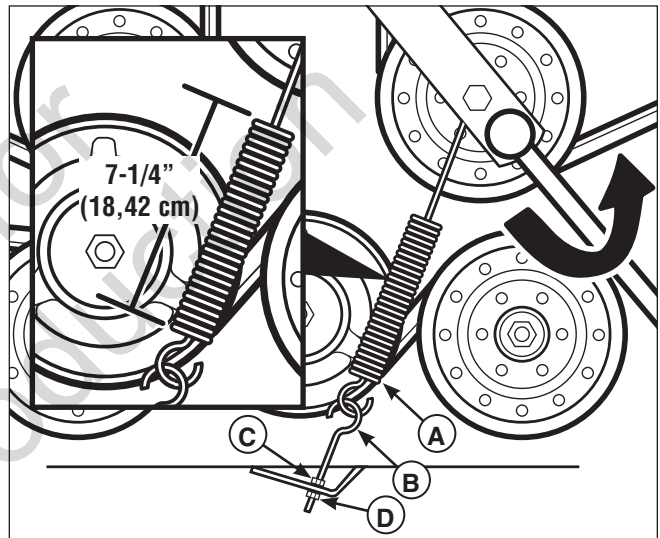

Figure 45. Mower Belt Idler Spring Length
3. Measure the coil length of the mower belt tensioner spring (A, Figure 45). The measurement should equal 7-1/4" (18,42 cm). If the measurement does not equal 7-1/4" (18,42 cm), adjust the anchor eyebolt (B).